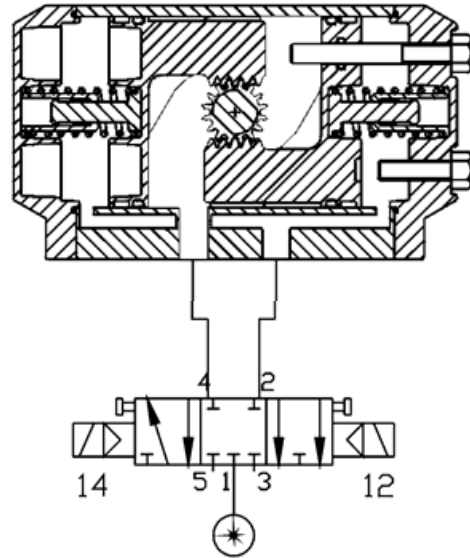

Figure 8
- **3 way (3/3)** for Spring Return actuators: air is exhausted through Port 2 (see figure 8)